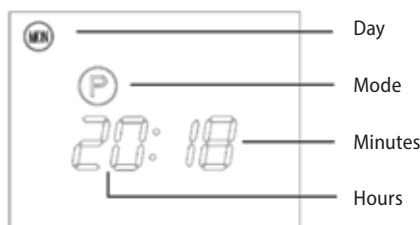

Fig. 1
1. Remove the holder from the body as shown in Figure 1.
Before you start using the appliance, turn on the switch located on the side of the appliance. Fig. 1 illustrates what the display will be showing, now the appliance is in standby mode and it does not heat. Display shows (P).
Press and hold the (MODE) button to set the hours, press and hold the (MIN) button to set the minutes, press and hold the (SET) button to set the days, see Fig. 1.